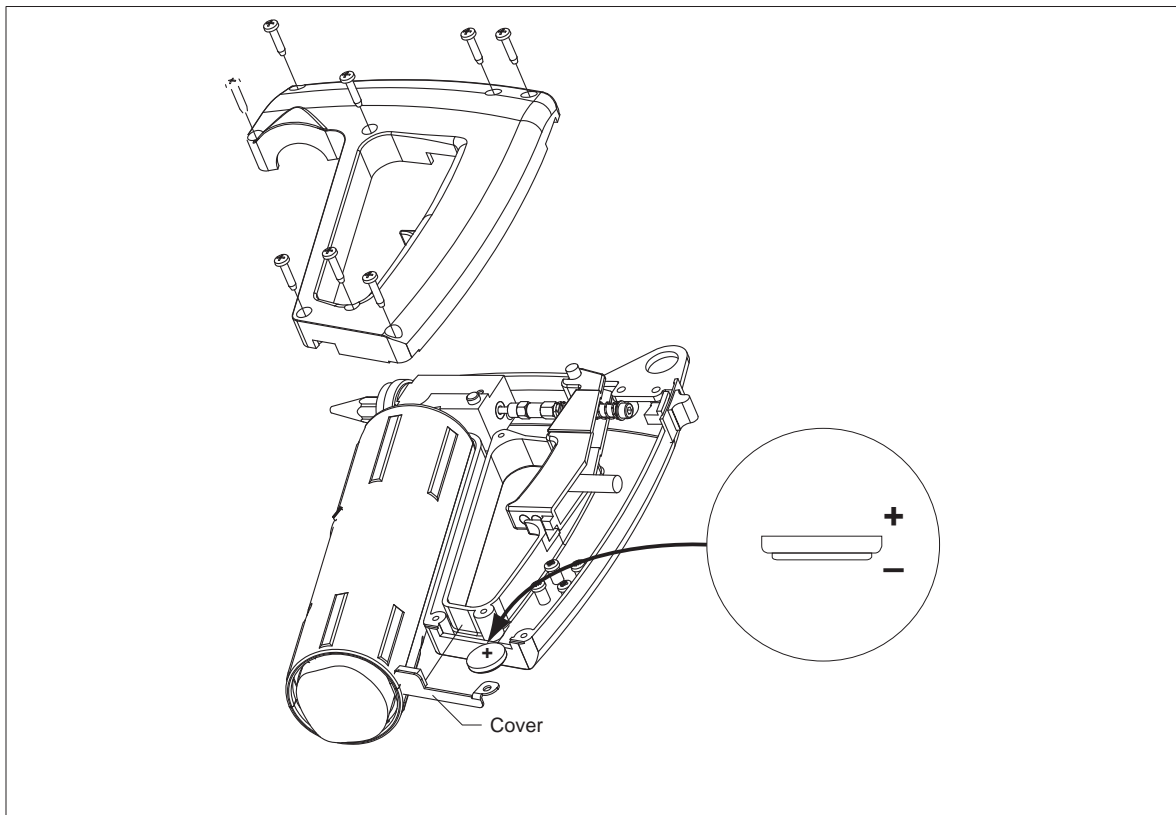

Figure 7.3/1 Replacing the transmitter battery
1. Release and remove the Phillips head screws as illustrated in Figure 7.3/1.
Please observe correct polarity of the battery (see Figure 7.3/1)!